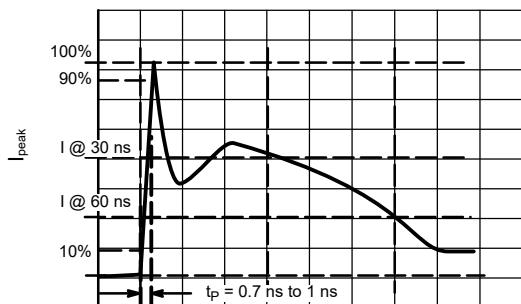

Figure 3: IEC61000-4-2 Waveform
6. For test procedure see Figures 3 and 4 and Application Note AND8307/D.